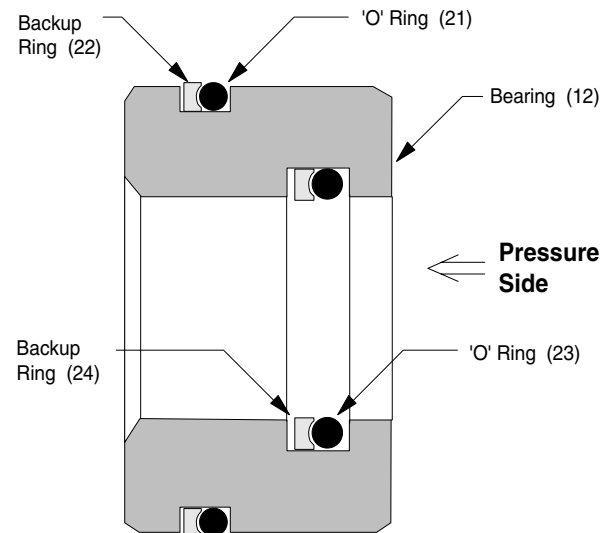

Figure 3-05
- 3.4.3.1 After pre-lubrication, install backup ring (22) onto the bearing (12), in the slot provided. 'O' ring (21) must be installed on the pressure side of the backup ring (ref fig 3-05). The backup ring has a radius which must face the adjoining 'O' ring.